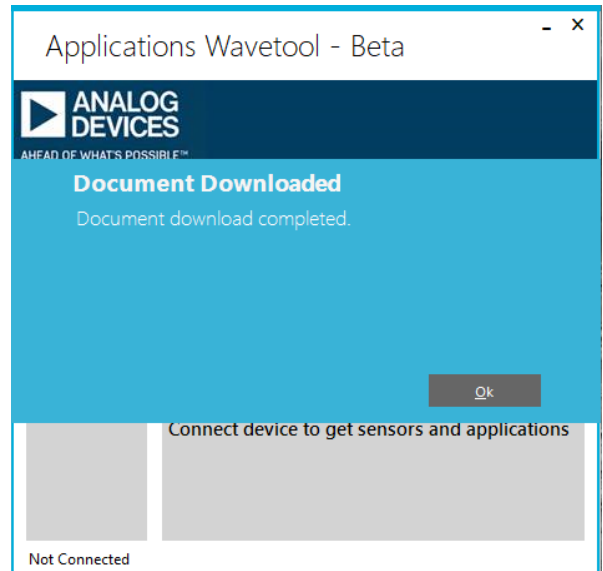

Figure 4. Document Downloaded Message
3. Depending on the speed of the internet connection, it can take from several seconds to a minute to download the documentation. After the document is downloaded, the prompt shown in Figure 4 appears. Click the **Ok** button to open the documentation in a browser window.